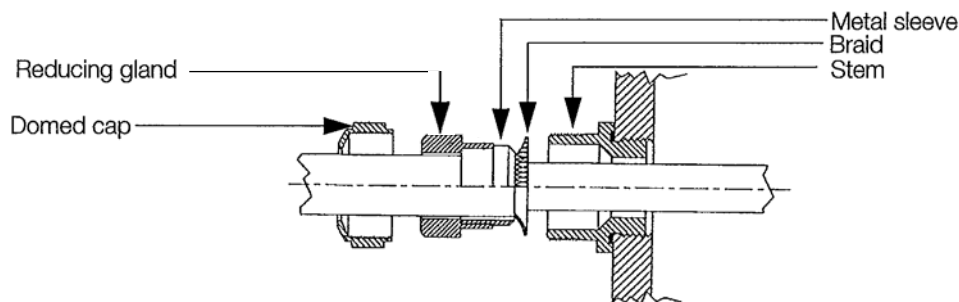

Figure 2-2. Metal Cord Grip
- Lower the reducing gland assembly so that the end of the metal sleeve is at the edge of the insulation and fold the braid over the metal sleeve (Figure 2-2). Trim the braid if necessary.
7. Lower the reducing gland assembly so that the end of the metal sleeve is at the edge of the insulation and fold the braid over the metal sleeve (Figure 2-2). Trim the braid if necessary.
6. Lower the reducing gland assembly so that the end of the metal sleeve is at the edge of the insulation and fold the braid back over the sleeve (see Figure 2-2). Trim if necessary.
4. Lower the reducing gland assembly so that the end of the metal sleeve is at the edge of the insulation and fold the braid back over the sleeve (see Figure 2-2). Trim if necessary.
2. Remove domed cap, reducing gland and metal sleeve from cord grip and place them on the cable (see Figure 2-2).